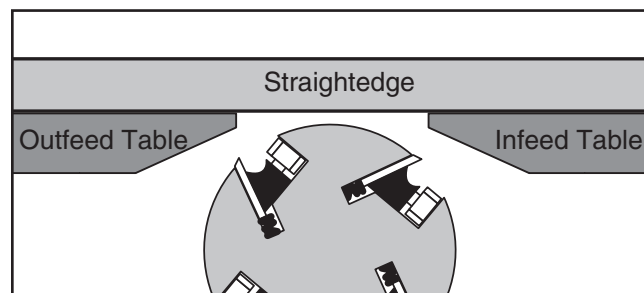

Figure 50. Infeed and outfeed tables set evenly (knife-style cutterhead shown).
3. Rotate cutterhead so knives/inserts will not interfere, then place straightedge infeed and outfeed tables and adjust infeed table even with outfeed table, as shown in **Figure 50**.